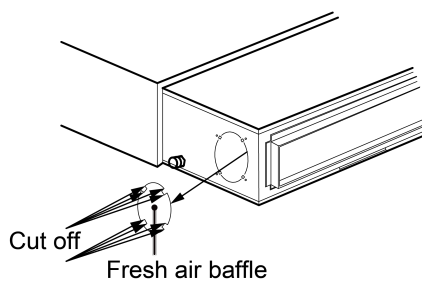

Fig 4.4.7
- (1) When the fresh air pipe is needed to be connected, cut the fresh air baffle as Fig 4.4.7. Plug up the gap of the fresh air baffle by sponge if the fresh air duct is not be used.